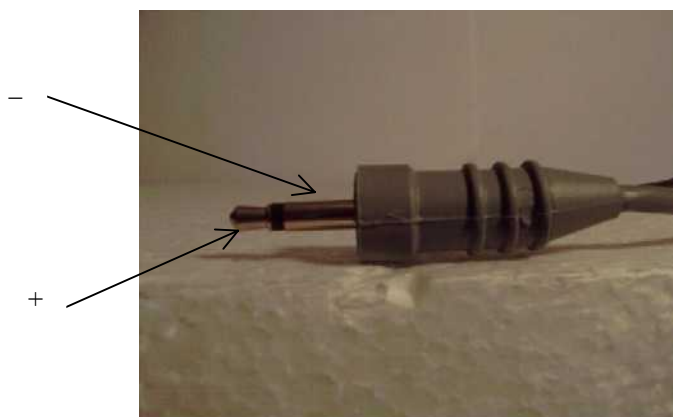

Figure 3-20 Arterial Pressure Connector
4. Using a power supply, provide 1.000 ± 0.001 volts to the Arterial Pressure connector (see Figure 3-20).
6. Using a power supply, provide 1.000 ± 0.001 volts to the Arterial Pressure Connector (see Figure 3-20).